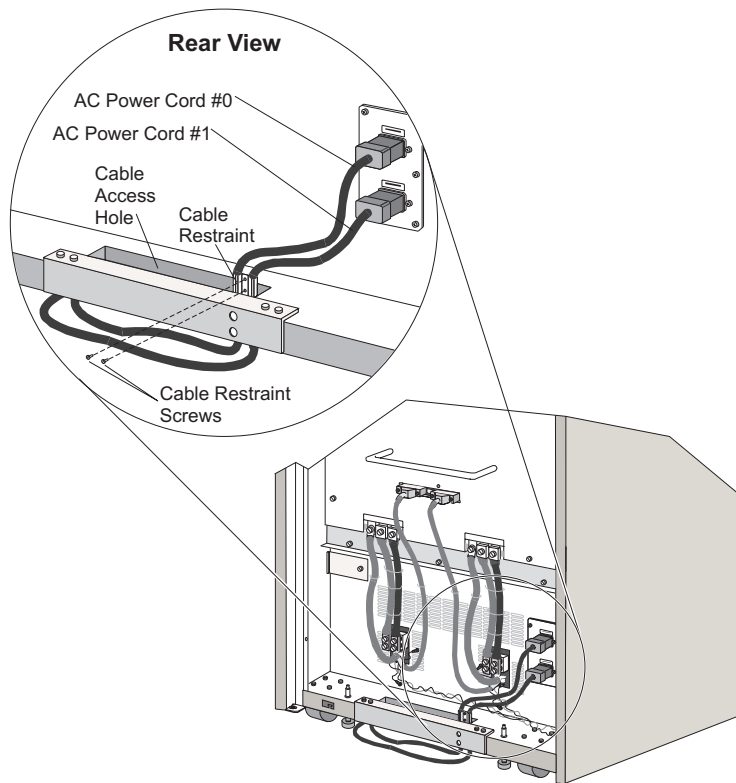

Figure 6-15. Placing Power Cables in Restraints
6. Remove the ac power cables from the Director's shipping container. Route the cables through the rear middle access hole under the cable restraint and plug it into the appropriate ac receptacles at the bottom right corner of the unit (refer to Figure 6-15).
Place the two power cables through the empty cable restraints in the rear middle access hole. Tighten the restraint with a Phillips or flat blade screwdriver (refer to Figure 6-15).